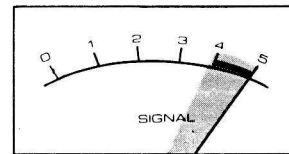

Fig. 10
3. Turn the tuning knob to select a station. The best reception is obtained when the SIGNAL meter pointer deflects to the extreme right, as indicated in Fig. 10.